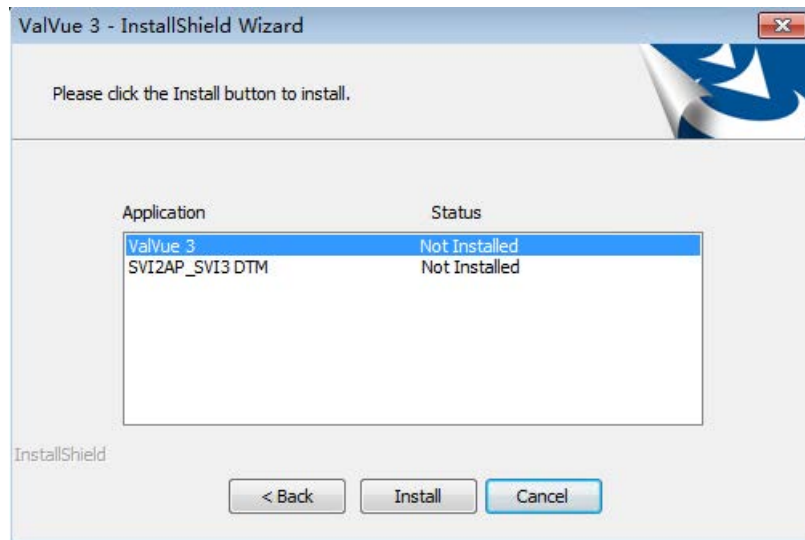

Figure 7 Display Application Status
6. Click **Next** and Figure 7 appears.